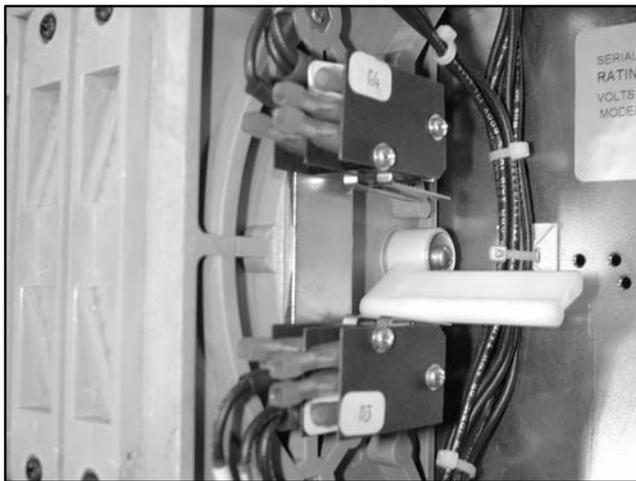

Figure 5-1 Microswitches
5. Note the location of the fast-on connectors to the microswitch terminals. See Figure 5-1.
12. Connect the fast-on connections to the microswitch terminals. See Figure 5-1.